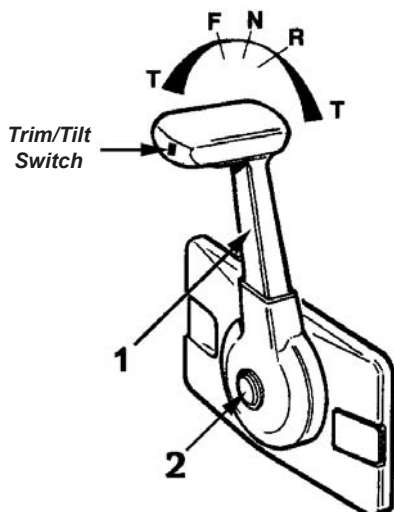

Figure F3: Side-Mount Control Operation
Shifting and engine speed are controlled with the same lever (1). See Figure F3.